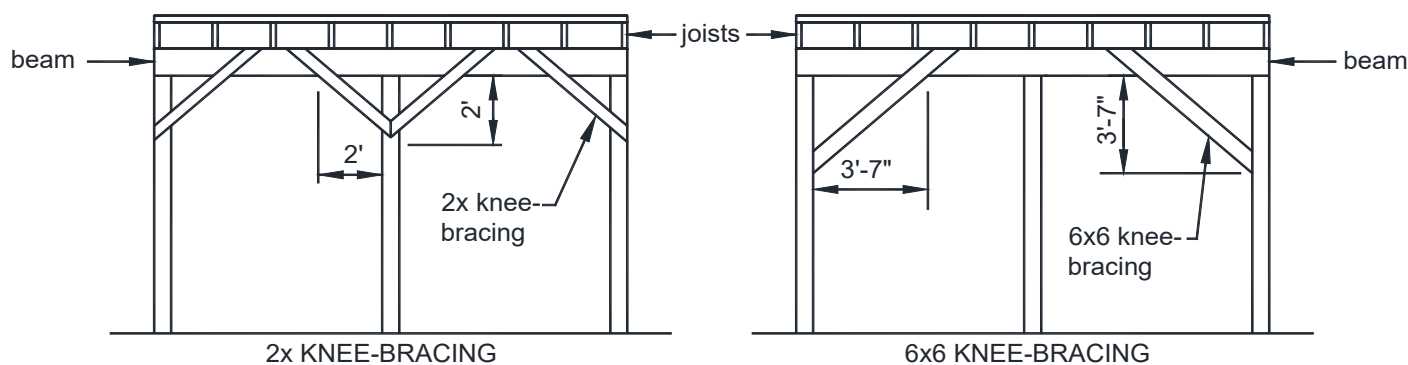

FIGURE 30: METHOD 2 - KNEE-BRACING AT BEAM-POST LOCATIONS
- Decks shall have 2x6 knee-bracing installed at each post-beam location or 6x6 knee-bracing at end posts and both sides of every other interior post in accordance with FIGURE 30.